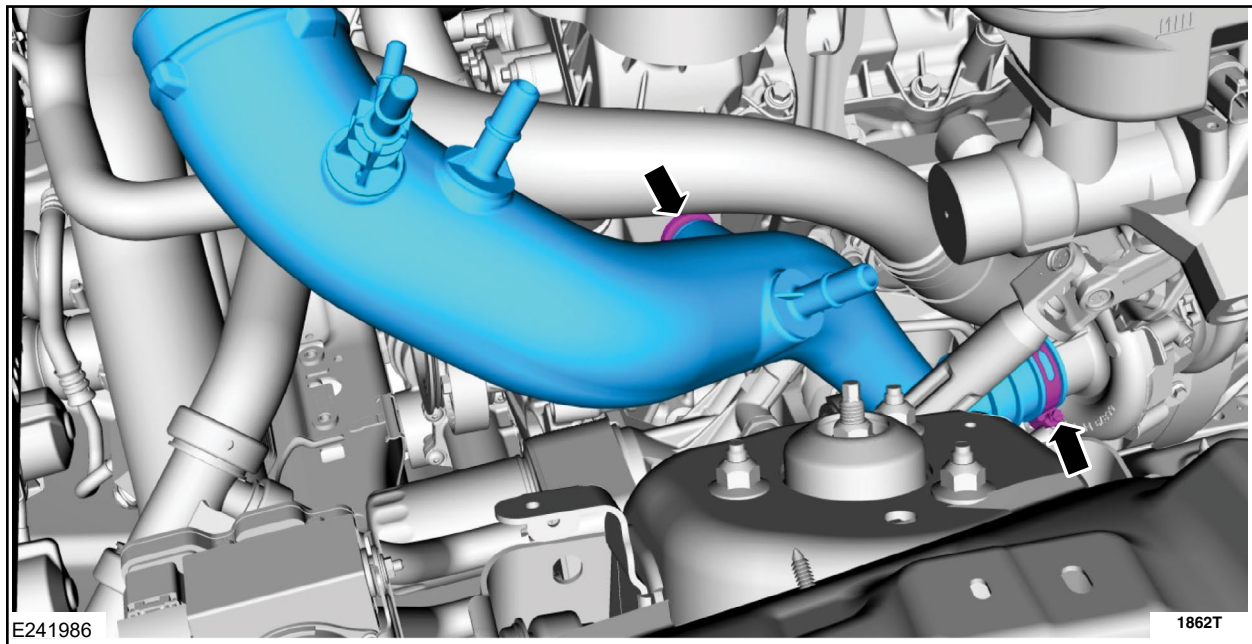

FIGURE 10
3. Loosen and position aside the air cleaner outlet pipe LH. See Figure 10.
10. Install the air cleaner outlet pipe. See Figure 10.